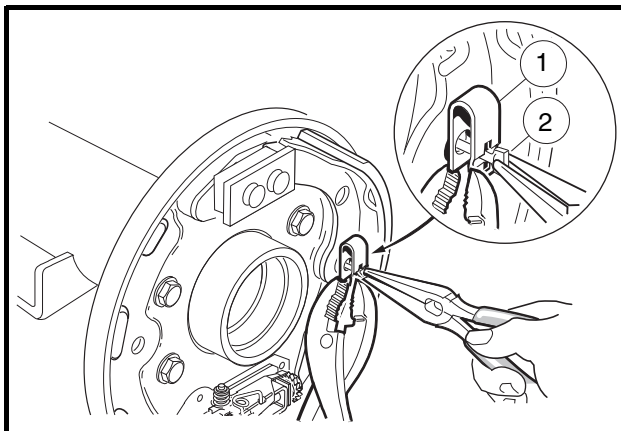

Figure 6-13 Install Trailing Shoe Retainer Clip
2. Install the shoe retainer clip, using pliers to compress the clip (1) while turning the retainer pin (2) into position (Figure 6-13, Page 6-6).